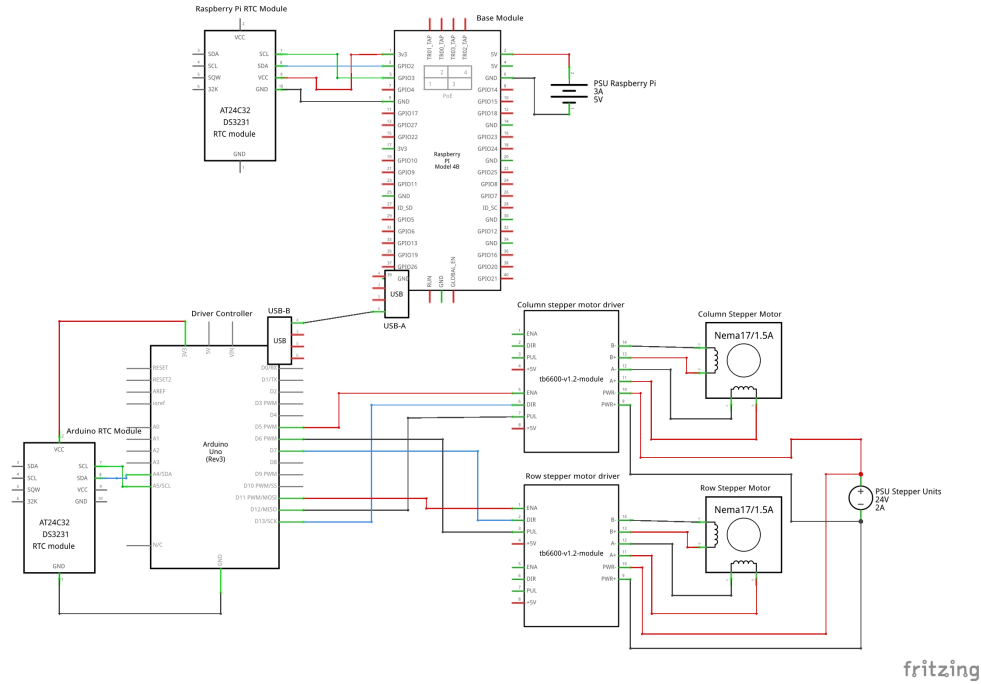

Figure 4: Engineering drawing of the Paparazzo system.
- If cables loosened, check Figure 4 to ensure correct wiring.